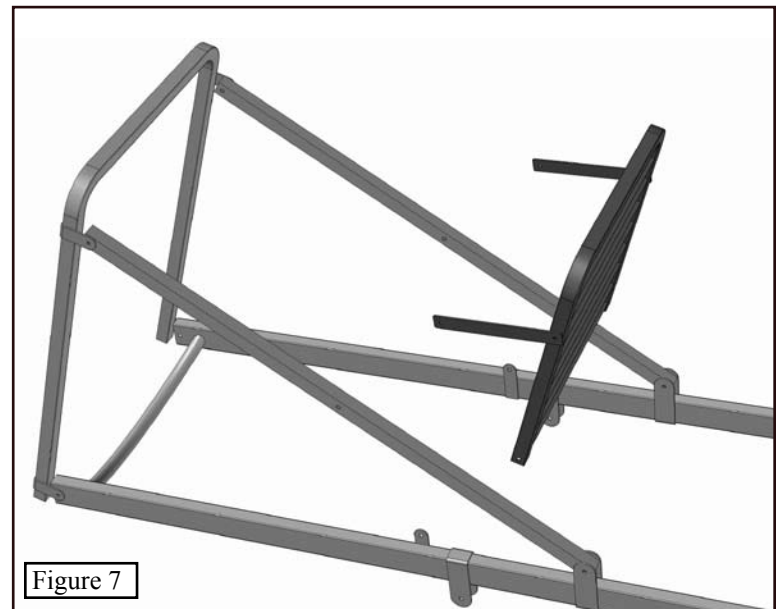

Figure 7
Step 3. Orient the Platform Assembly and the Support / Arm Rest Assembly as shown in **Figure 7**.